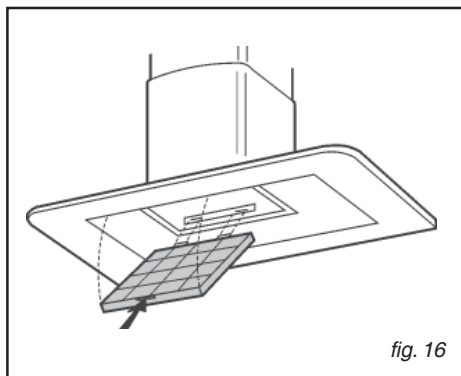

fig. 16
• Removing the charcoal filter (fig.16)
Remove the charcoal filter: push the catch towards the inside and turn the filter so that the 2 filter clips slip out of their seats (fig. 16).